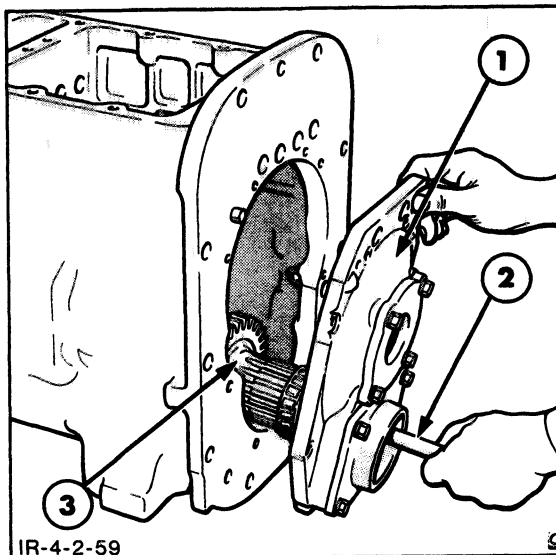

FIGURE 4-151
5. Insert a suitable rod through the bearing cap hole and into the countershaft assembly, Figure 4-151.